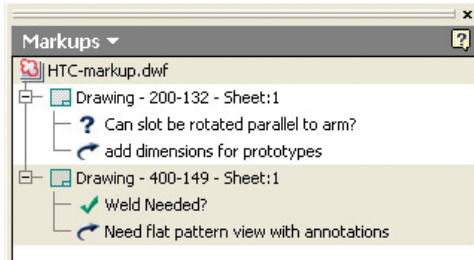

Figure 14
3. In the Markups Panel, select the drawing and markup you wish to view. (Figure 14)